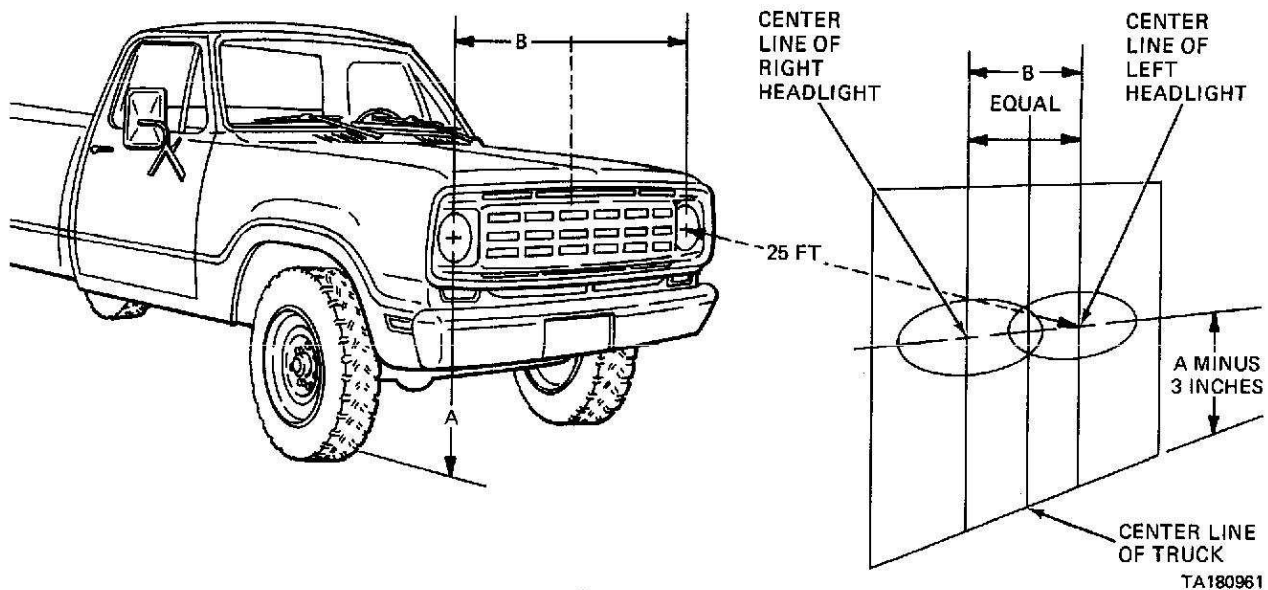

Figure 2-53. Adjustment Pattern.
- (1) Position the truck so that the headlights are 25 feet from a smooth, vertical surface. The floor must be level and the truck must be unloaded.
- (2) Make sure the tires are inflated to 45 psi in front and 55 psi in the rear. Remove both headlight trim doors.
- (3) Measure the centerline of the headlights from the floor and draw a horizontal line 3 inches below that height on the flat vertical surface.
- (4) Sight down the centerline of the truck to the wall. Draw a vertical line intersecting the first two lines at the projected centerline of the truck.
- (5) Measure the distance between the centers of the two headlights. Divide that distance equally on both sides of the centerline. Draw vertical lines at these points, intersecting the first two lines.
- (6) Turn on the headlights and select the high beam. Adjust one headlight at a time, covering the other.
- (7) Turn the adjusting screws in or out until the beam is adjusted to a pattern as near as possible to that shown in figure 2-53. Center the beams on the intersections of the horizontal and vertical lines.